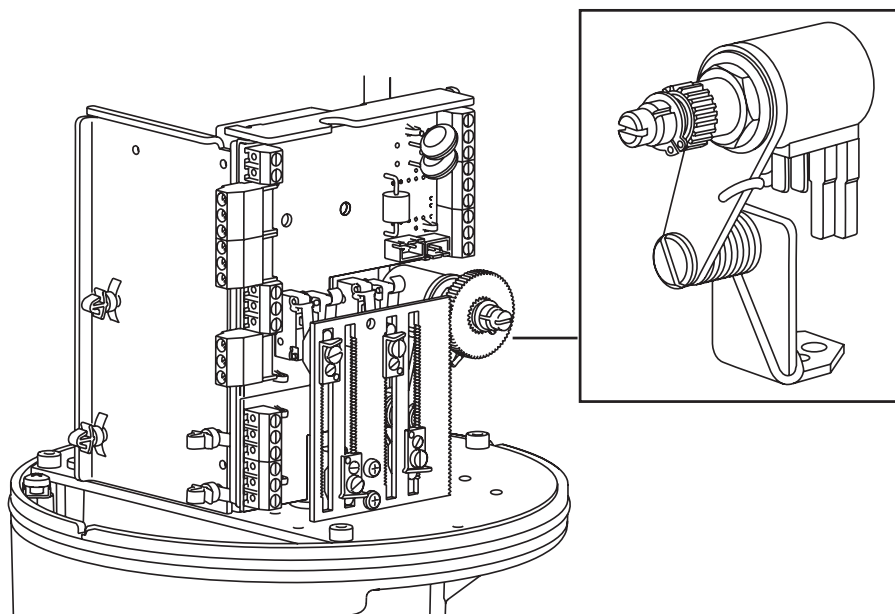

Fig. 31
6. At this point the multimeter should read 0 V. If it does not turn the shaft of the feedback potentiometer until the multimeter reads the required 0 V (Figure 31) adjust the start potentiometer P2 (Figure 31) until the close LED just switches off.